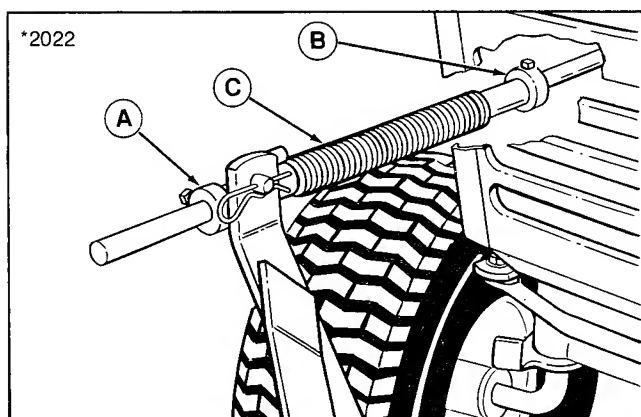

Figure 8. Lift Rod Adjustment
For initial setting, place front set collar (A, figure 8) one inch from rod guide with blade fully lowered. Place rear set collar (B) against spring (C). Tighten the setscrews in the two set collars. To adjust, perform the following.